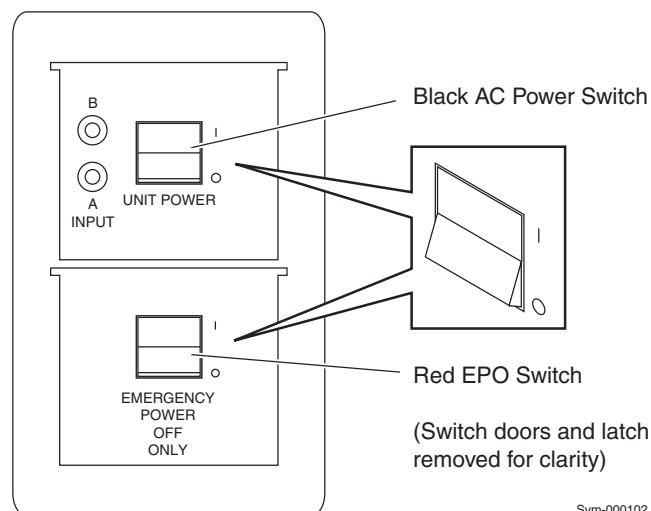

Figure B-1 Symmetrix DMX Power Switch
2. Press the AC (black) power switch on the rear door (Figure B-1 on page B-2) to the down (O) position. Do *not* press the EPO (red) switch.
1. On the rear door, lift the cover to the red EPO switch (Figure B-1 on page B-2).
2. Lift the protective latch, then press the red EPO switch to the down (O) position.